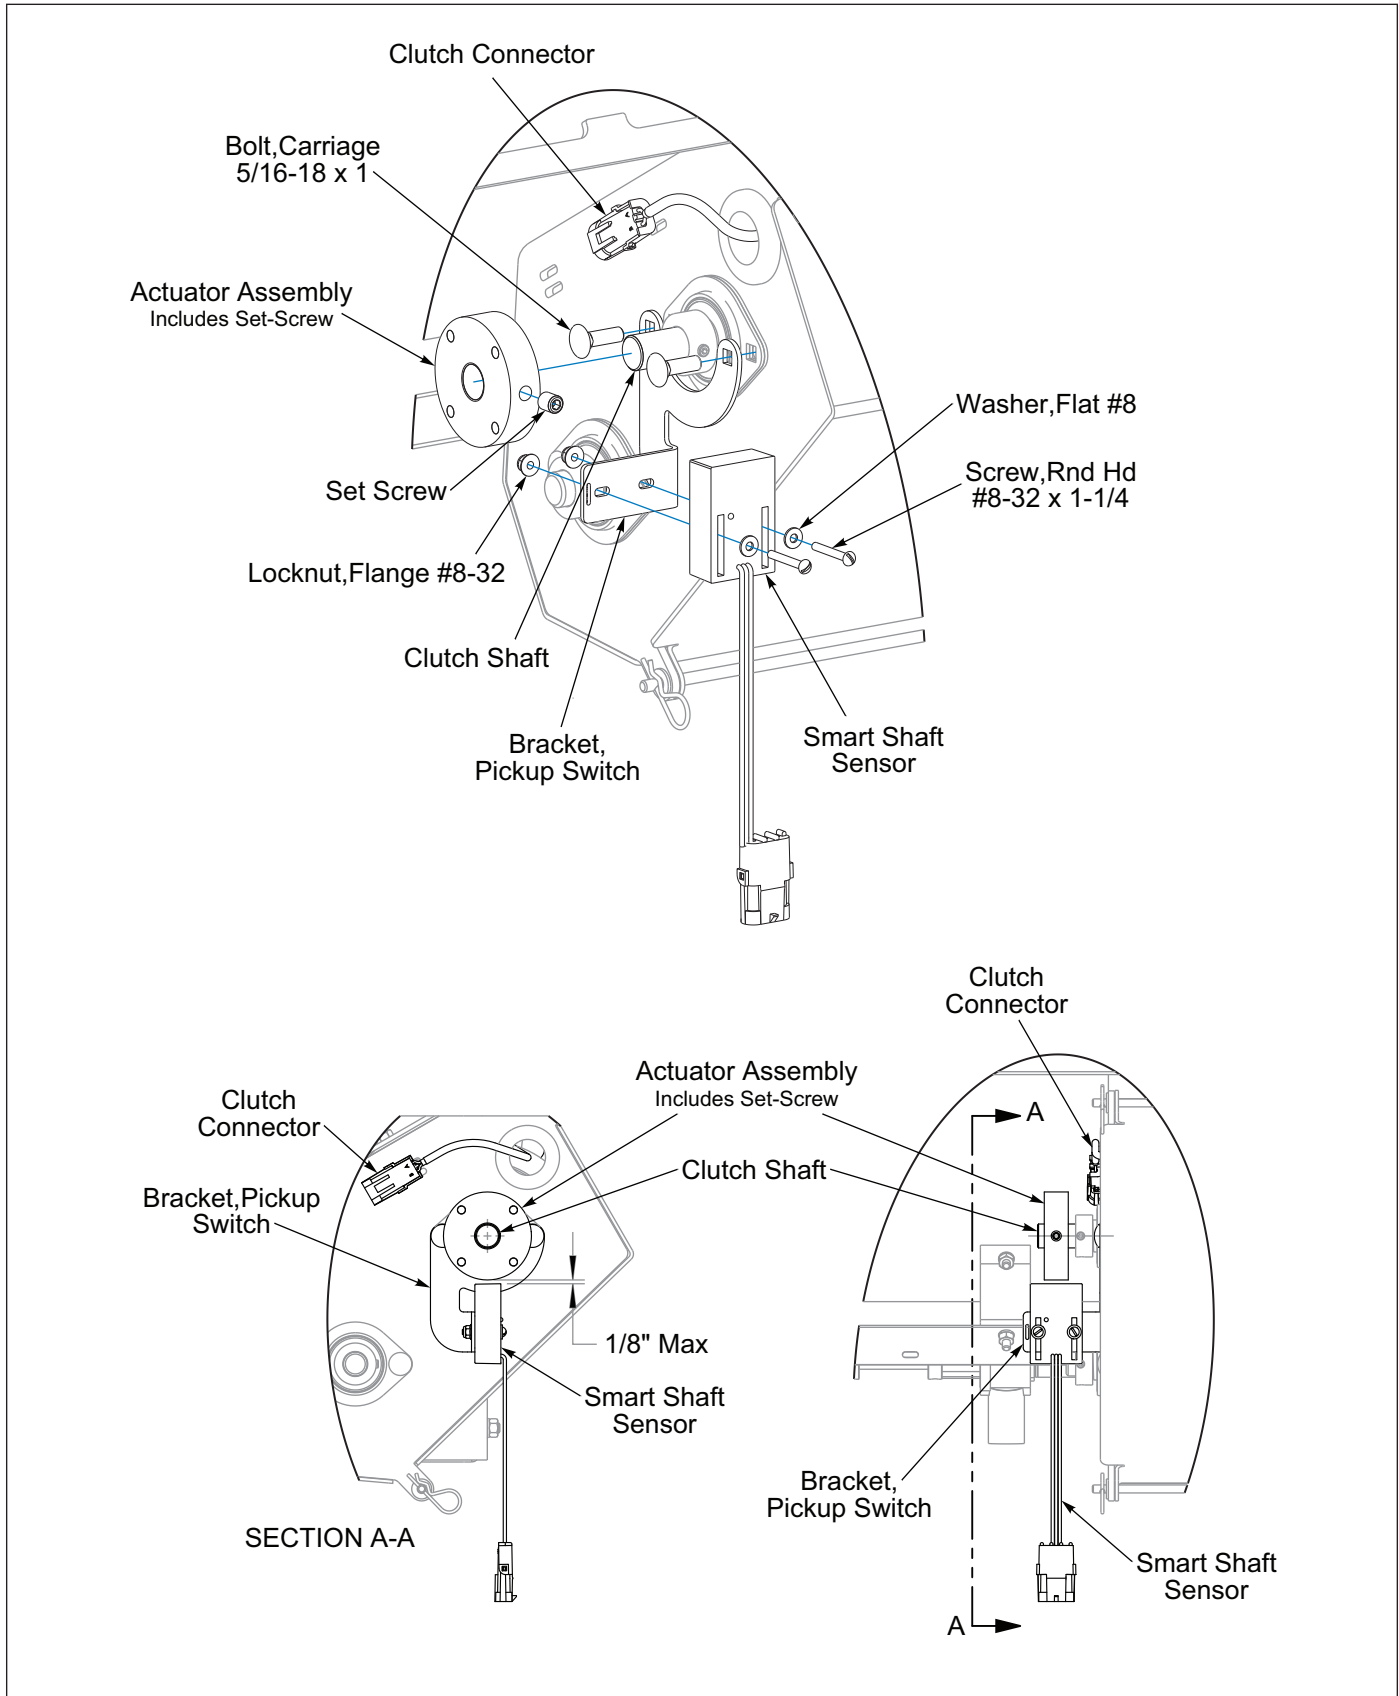

Figure 2-8: Brillion Elite Mini Monitor - Ground Speed Sensor
4. LH Seeder Only, Install Pickup Switch Bracket with the Clutch Shaft Bearing Carriage Bolts, Lock Washer and Nut. See Figure 2-8. Place Actuator Assembly onto the Clutch Shaft, secure with Actuator Assembly Set Screw. Assemble Smart Shaft Sensor onto the Pickup Switch Bracket with sensor provided hardware and #8-32 Flange Locknuts. Adjust the Smart Shaft Sensor so that it is an 1/8" Max away from the Actuator Assembly. Connect the Ground Speed Smart Shaft Sensor to the Seeder Harness.